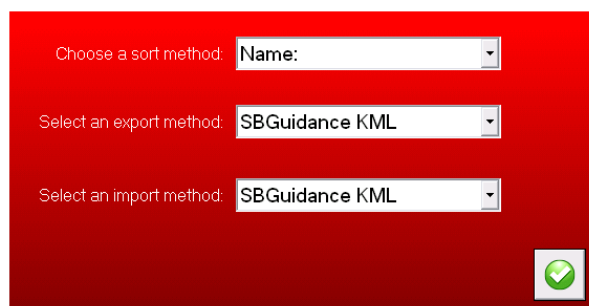

Figure 10 Configuring import export methods
-  Open configuration windows see Figure 10.